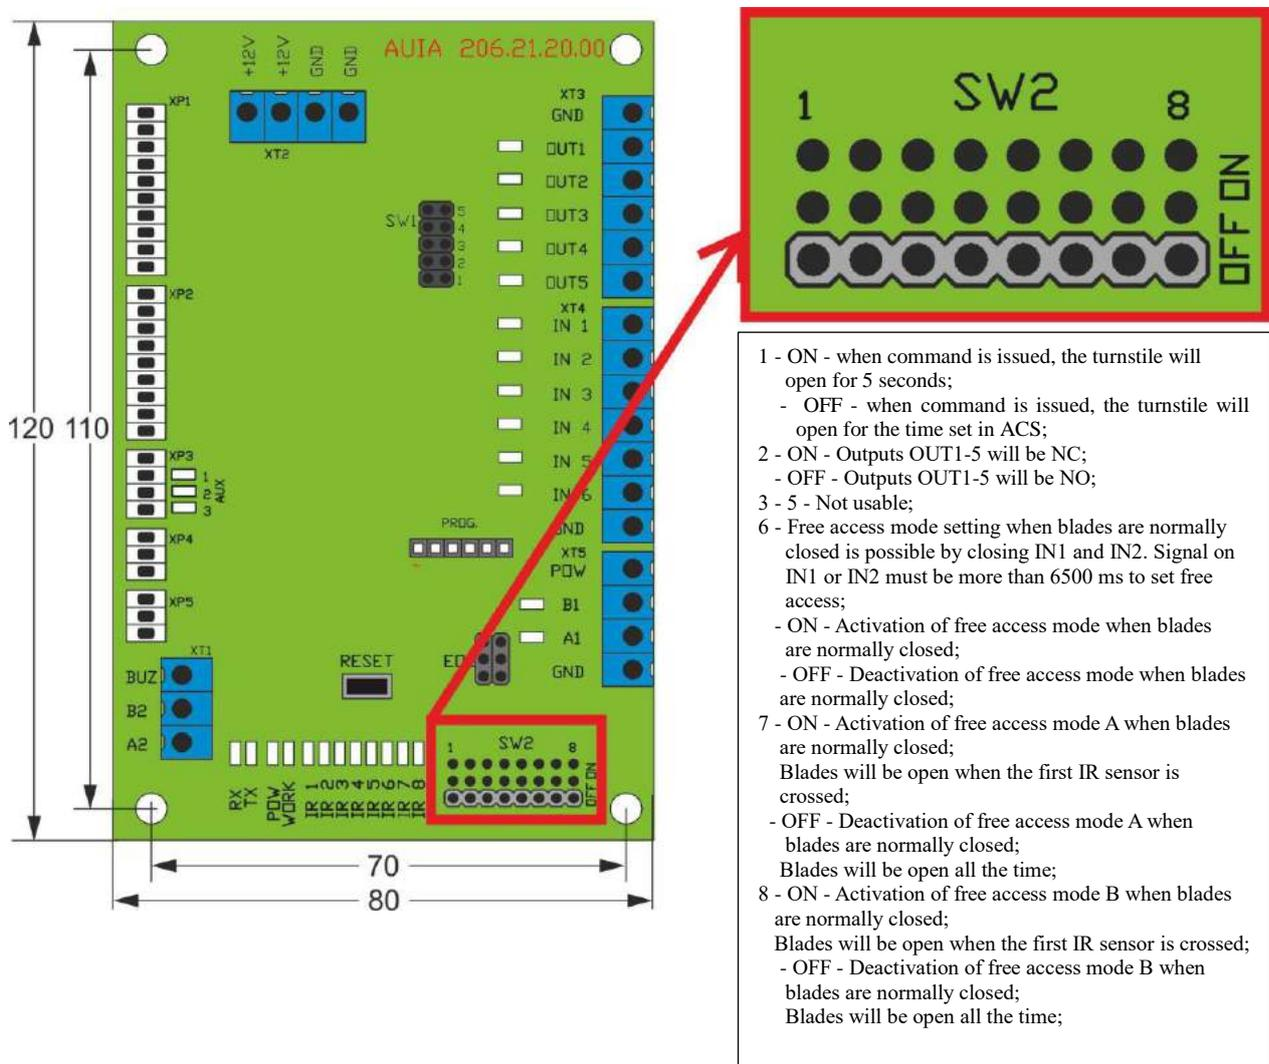

Fig. 8 – Appearance and configuration of controller AUIA.206.21.20.00
1.6.1.1 Appearance of controller AUIA.206.21.20.00 is shown in *Figure 8*.